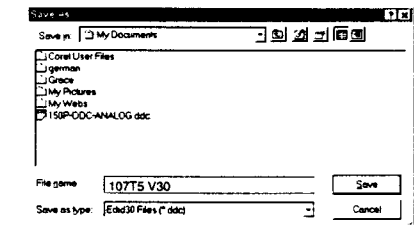

Fig. 19
1. Click (Save) icon (or click "file" -> "save as") from the tool bar and give a file name as shown in Fig. 19. The file type is EDID301 file (*.ddc) which can be open in WordPad. By using WordPad, the texts of DDC data & table (128 bytes, hex code) can be modified. If DDC TEXTS & HEX Table are completely correct, it can be saved as .ddc file to re-load it into EEPROM for DDC Data application.